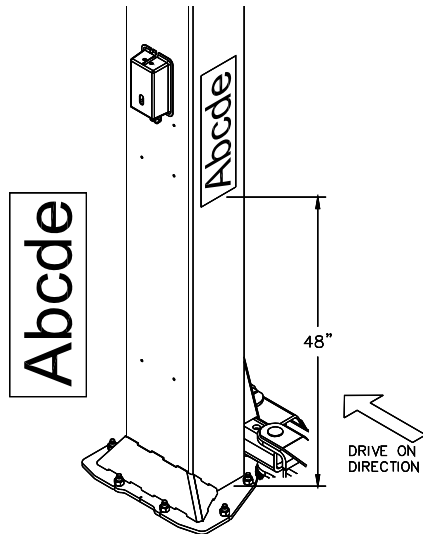

Fig 9 – Decal Placement
- 28) Apply the decal 48" from the top of the base plate, **Fig 9**.